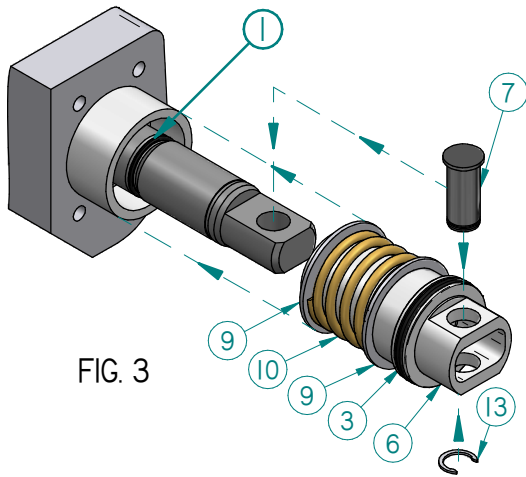

FIG. 3
2. Slide piston assembly (3,6,9,10) over the spool (See Fig. 3). Align the piston and spool holes and insert the pin (7). Install the circlip (13) in the pin groove.